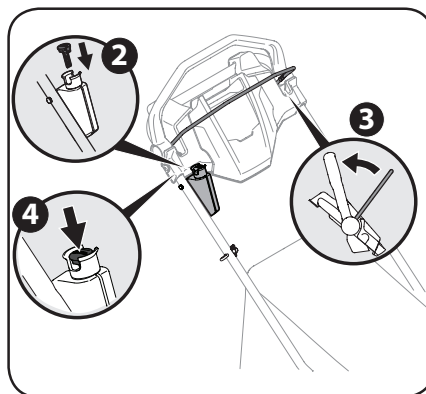

Figure 3-4
3. Standing behind the mower, pull the blade control back against the drive control. See Figure 3-4.
4. Push the electric starter push key to start the engine. See Figure 3-4.